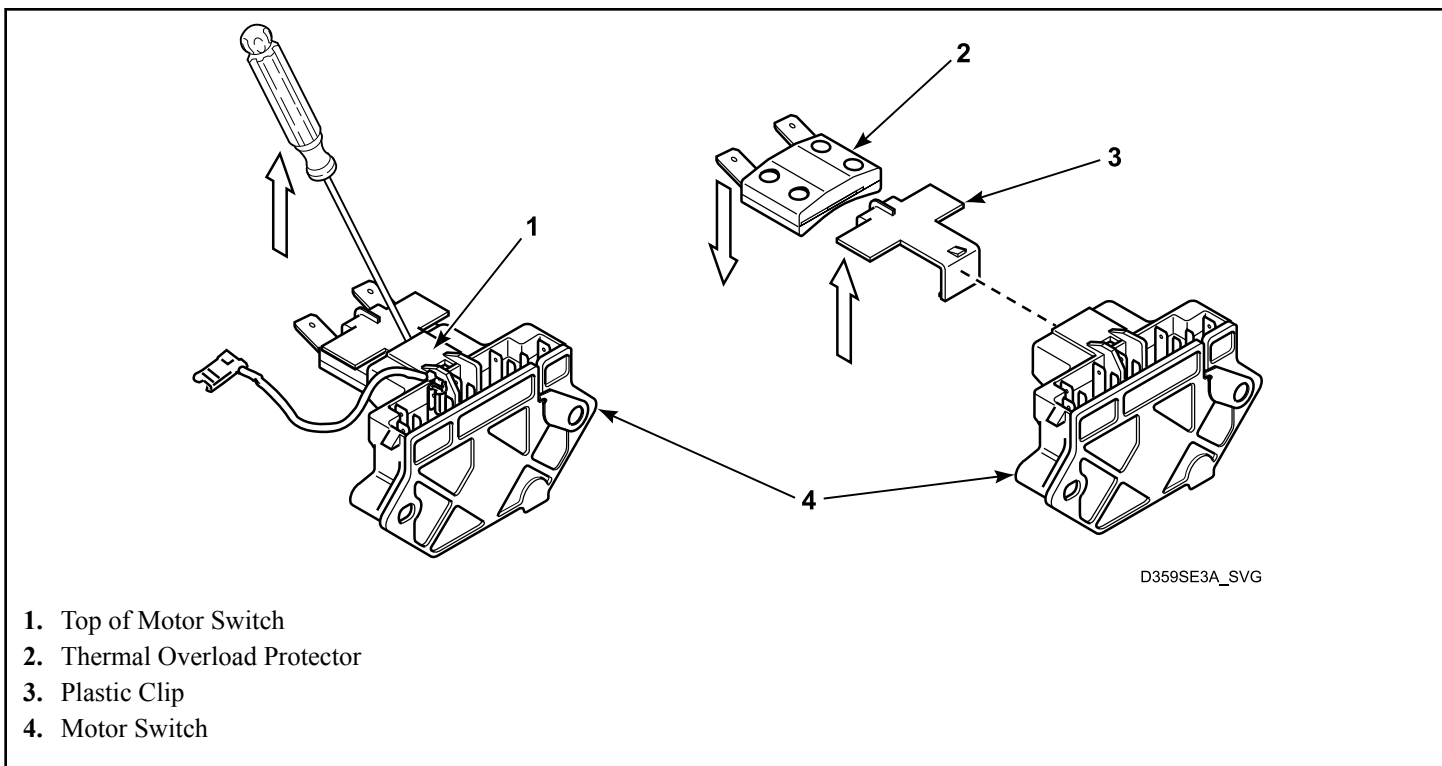

Figure 7
- b. **Motor with Switch on Pulley End.** Press the tip of a small bladed screwdriver into the slot located between top of motor switch and plastic clip. Lift up on handle of screwdriver until both clip and thermal overload protector detach from motor switch. Refer to *Figure 7*.